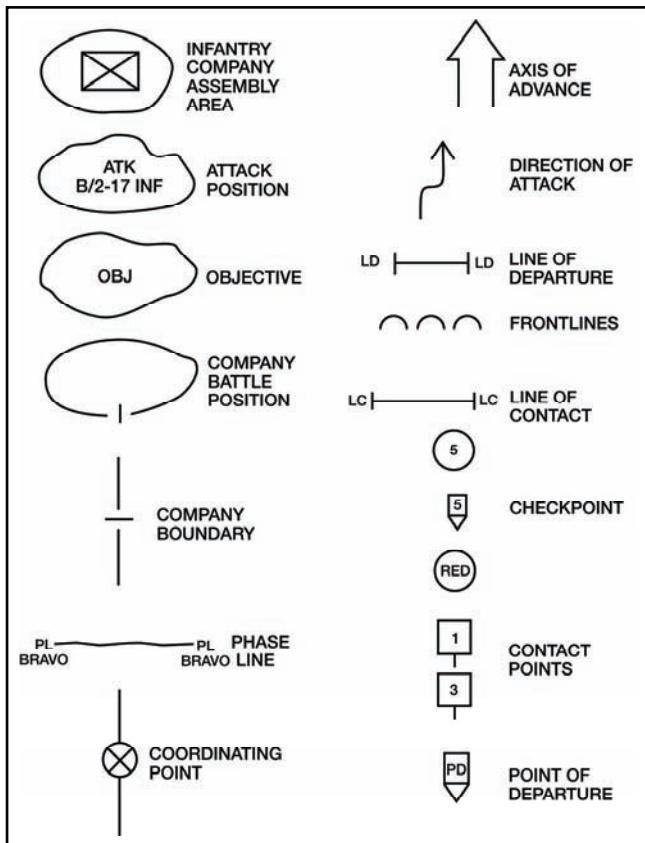

Figure 071-329-1019-8. Tactical control symbols
- h. Weapons symbols (figure 071-329-1019-9).